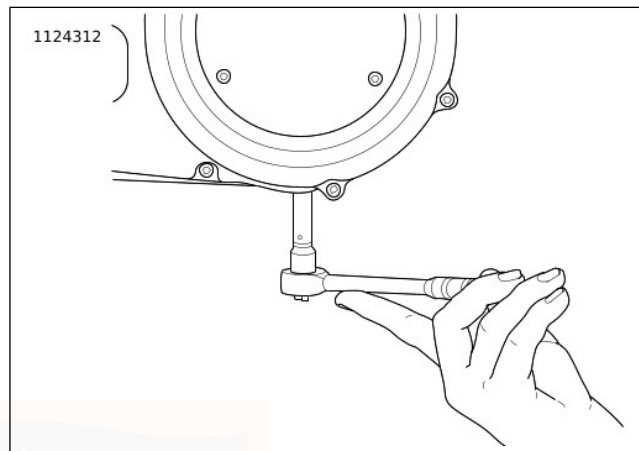

Figure 70. Removal/Installation of Chaincase Drain Plug
3. See Figure 70. Drain primary chaincase.